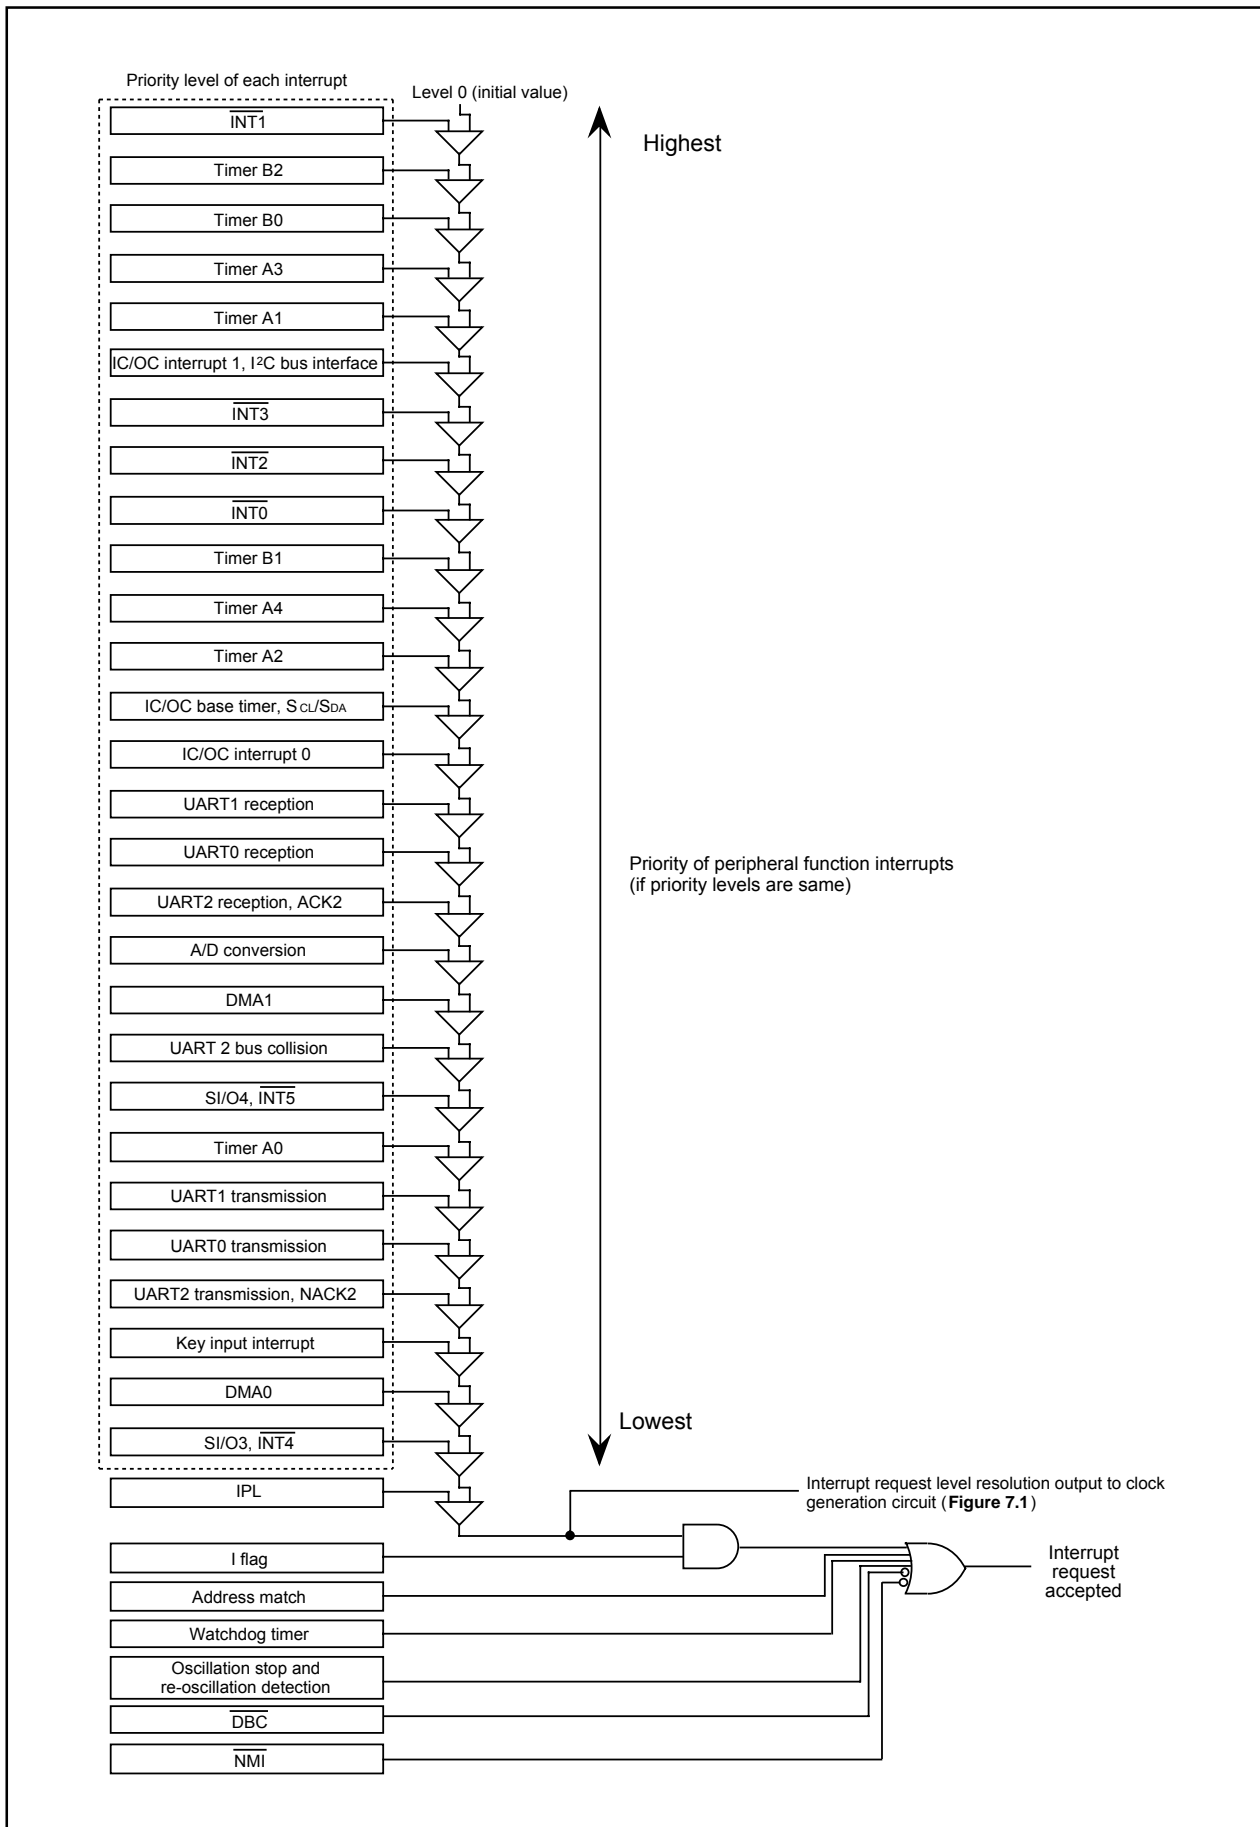

Figure 9.10 Interrupts Priority Select Circuit
**Figure 9.10** shows the circuit that judges the interrupt priority level.